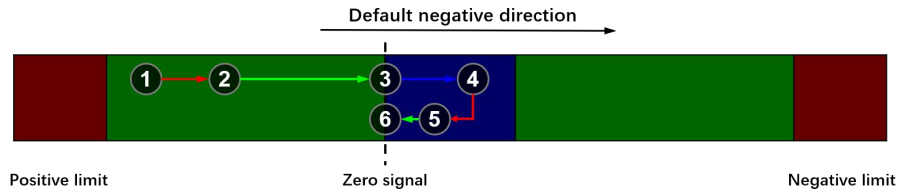

Figure 15.15.3
- ①→②: Workbench accelerates to returning speed in negative direction.
- ③→④: Workbench enters zero signal area and decelerates to crawl speed.
- ⑤: Workbench stops at side of zero signal area, if Z-phase is selected, workbench stops at Z-phase signal.
- Zero positive-edge mode, as shown in Figure 15.15.3: